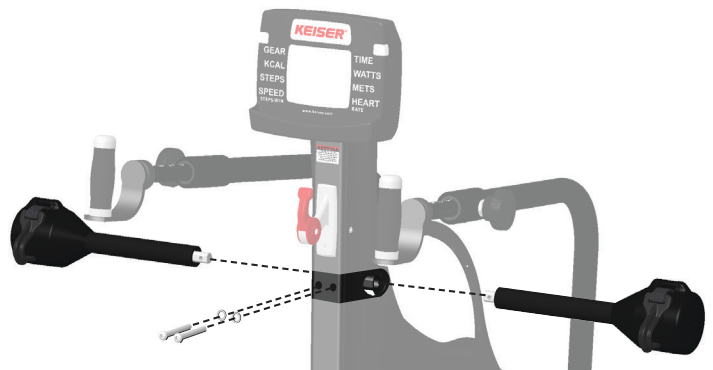

Figure 3. Left and Right Recoiler Installation
1. Insert the Left and Right Recoiler shaft into the M7i Main Frame until it stops, refer to Figure 3.